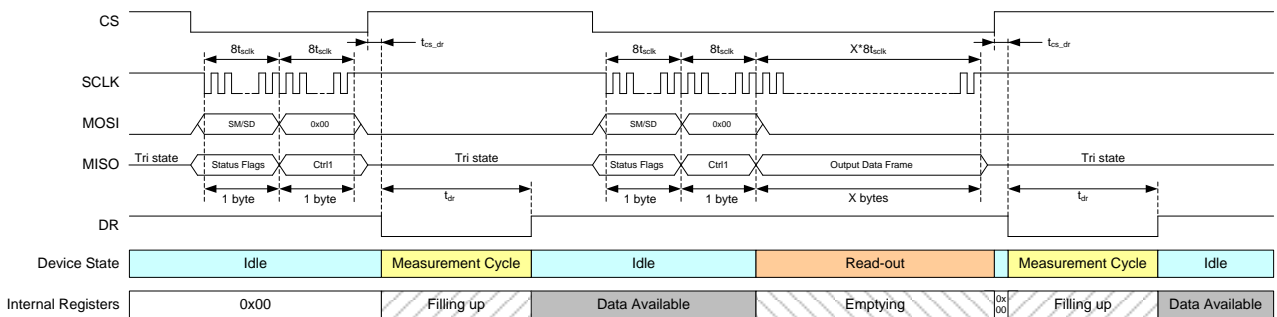

Figure 14 : Combined SM - RO (X value is defined in Figure 6)
- Figure 14 : Combined SM - RO (X value is defined in Figure 6) shows the operation with the combined SM and RO. First one has to upload a SM command to start a measurement. The data is available for read-out when the DR pin goes high. Instead of uploading a RO command, a SM command can be uploaded again to combine read-out and the start of the next measurement cycle. If extra clocks are given after upload of the SM command, the data of the internal registers becomes available on the MISO pin. Note that the CS pin shall not be set high until the read-out is finished. Once CS pin goes high, the DR pin is set low and a new measurement cycle will be started. A time t_{dr} later the DR pin goes high to indicate that the data is available.